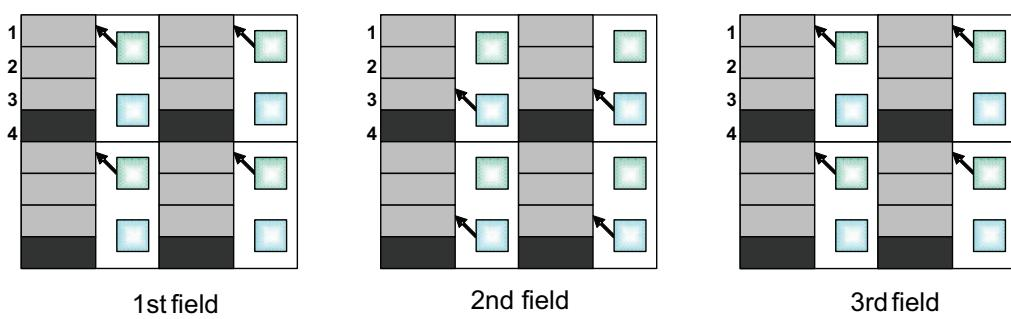

Figure 49: Format_7 Mode_1: 4-phase vertical shift register precharging (interlaced, frame)
- see Figure 49: Format_7 Mode_1: 4-phase vertical shift register pre-charging \(interlaced, frame\) on page 100